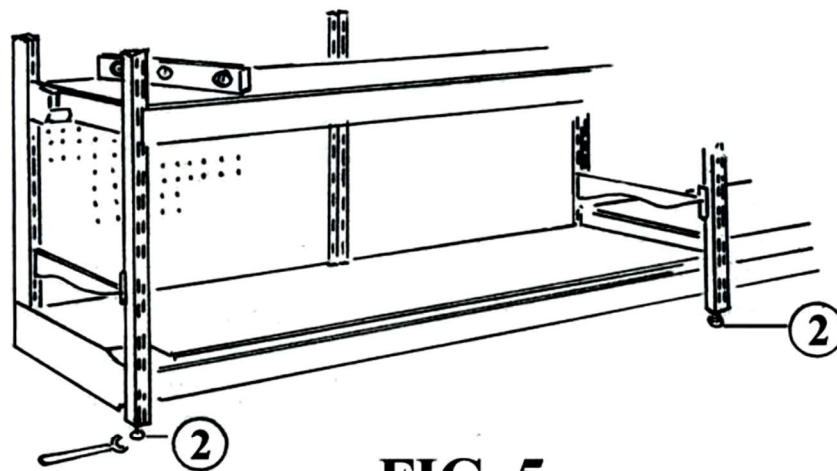

FIG. 5
- G) Near a Post, (1) place a level on the Shelf (7) so it's perpendicular to the Beams. (8,9) Level the unit by turning the Leveler Screws (2) with a flat head wrench. Once level, tighten the Support Brackets. (4) (See FIG. 5 on Page 2)